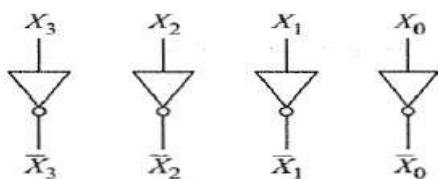

Fig. 6.1 Inverters produce the 1's complement.
- Figure 6.1 shows how to produce the 1's complement with logic circuits. Since each bit drives an inverter, the 4-bit output is the 1's complement of the 4-bit input. For in-stance, if the input is